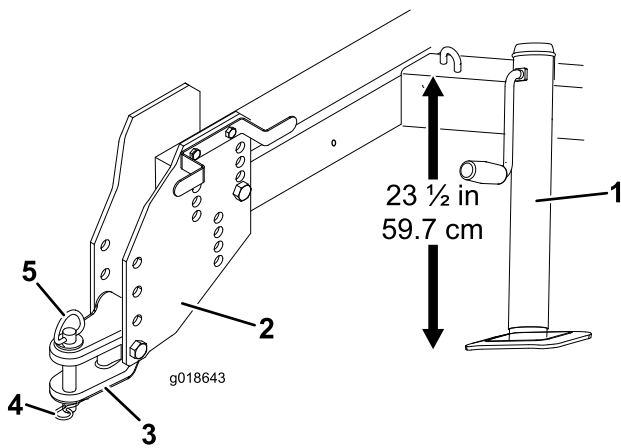

Figure 3
3. Adjust the jack so that the distance from the top of the frame to the ground is approximately 23–1/2 inches (59.7 cm) (Figure 3).
- Remove the bolts and locknuts securing the hitch tongue to the hitch plates (Figure 3).
6. Secure the hitch tongue to the prime mover hitch with the hitch pin and lynch pin (Figure 3).